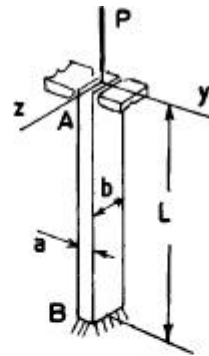

fig. 3
4. A column of length L and rectangular cross-section ($a \times b$) has a fixed end B and support a centric load at A as shown in Fig. 3. Two smooth and rounded fixed plates restrain end A from moving in one of the plane of symmetry of the column and allow it to move in the other plane. Determine the ratio a/b for most efficient design against buckling.